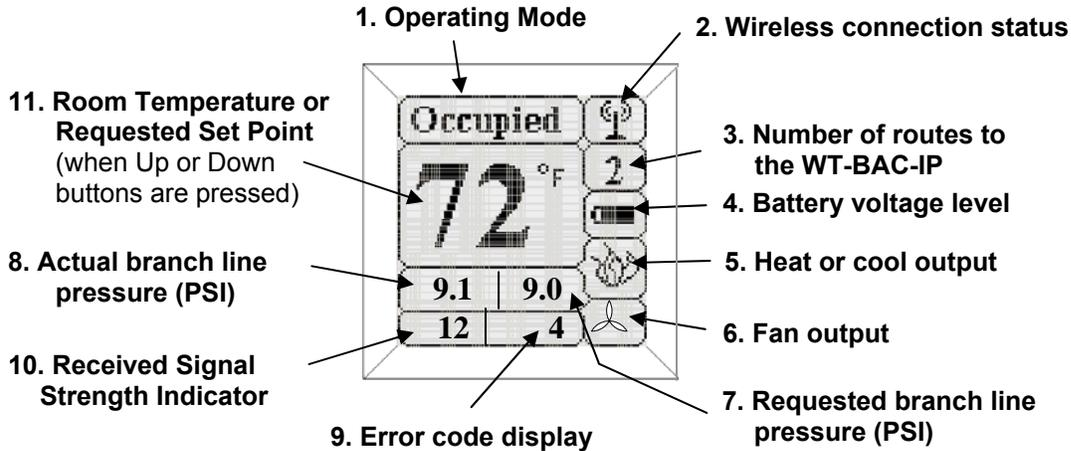

Figure 8. WT-4000 Series Thermostat LCD Display
- a. **Look at the Wireless Connection Status indicator on the LCD screen (Figure 8):**
- b. **Look at the Number of Routes to the WT-BAC-IP on the LCD screen (Figure 8):**